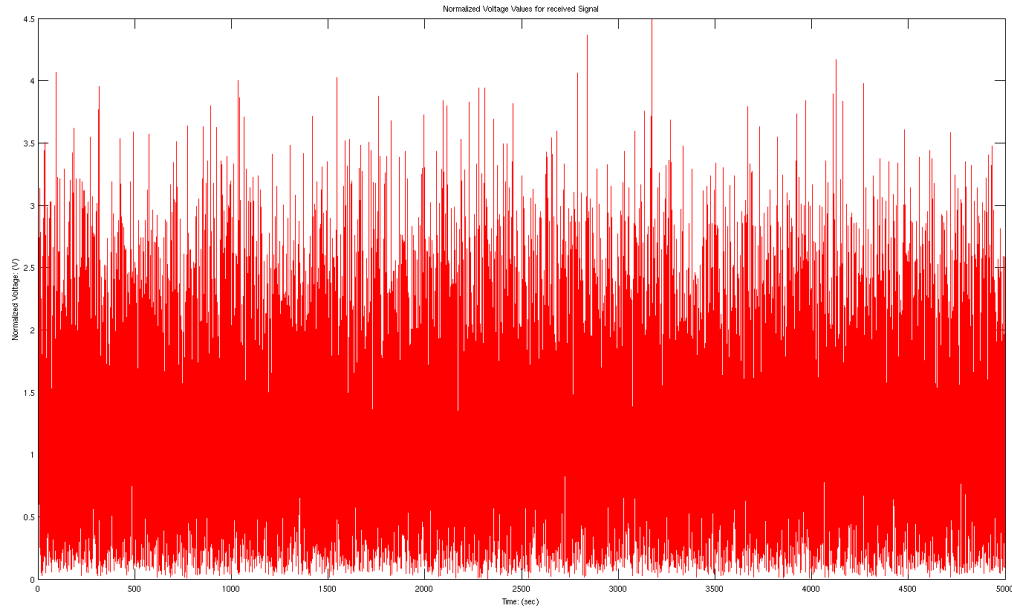

Figure 2: The Normalized Voltage Data as Calculated from the Measured Signal Data.
The following figure was plotted on the graph and shows the normalized Voltage Data(V) in respect to Time(sec) (see Figure 2):